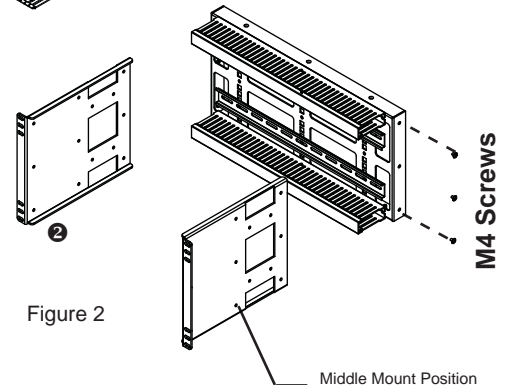

Figure 2
Step 4. Secure both side of ear bracket ❷ with (3)M4x8 screws for each side to complete installation. (Figure 2)